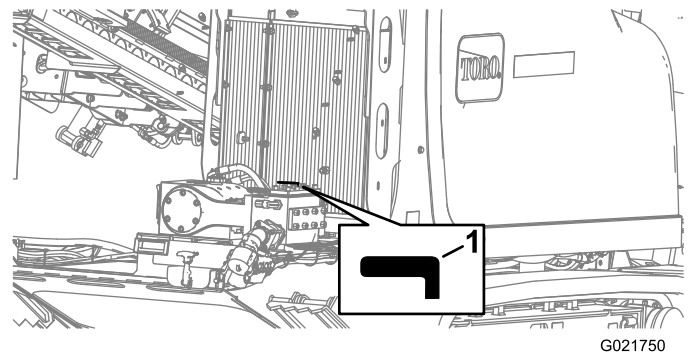

Figure 156
4. Turn the drilling-fluid valve clockwise to the Off position (Figure 156).